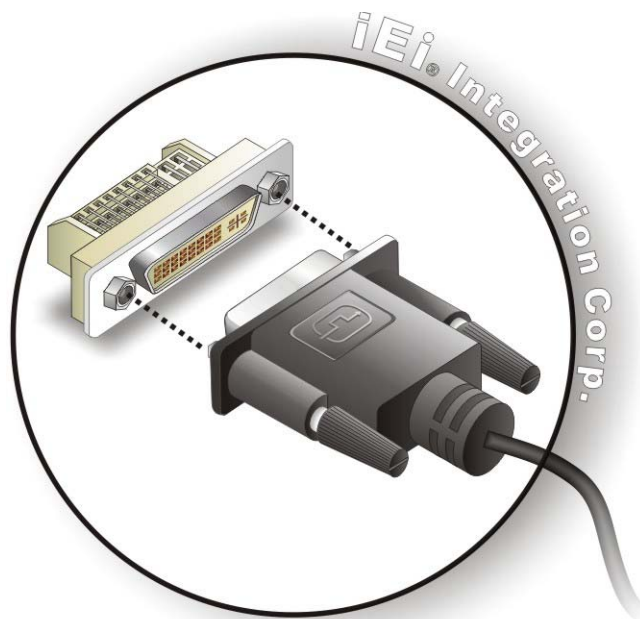

Figure 4-15: DVI Connector
Step 3: Insert the DVI-I connector Once the connectors are properly aligned with the male connector, insert the male connector from the digital display device into the female connector on the NANO-QM770. See Figure 4-15.